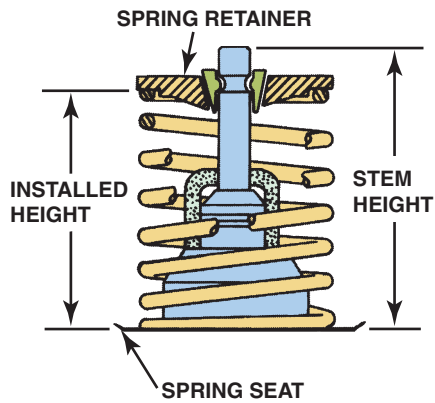

FIGURE 27-38 Installed height is determined by measuring the distance from the spring seat to the bottom of the valve spring retainer.
STEP 1 To determine the exact thickness of insert to install, measure the valve spring installed height. **SEE FIGURE 27-38.**